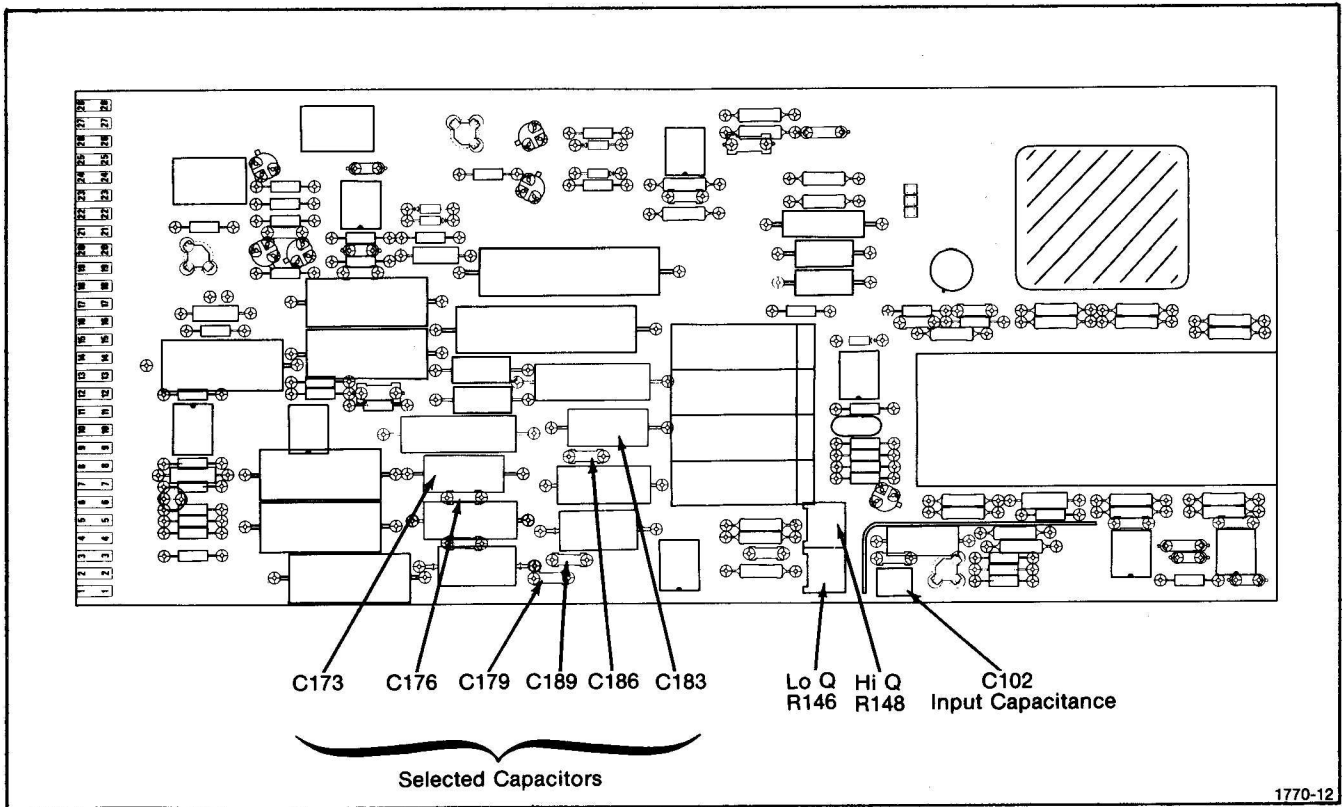

Fig. 3-1. Location of shunting capacitors, Lo Q, HI Q, and input capacitance adjustments.
c. Adjust—Hi Q, R148, for a 10 V peak-to-peak amplitude display on the oscilloscope. See Fig. 3-1 for adjustment location.
If display amplitude is above or below the specified tolerance level, capacitor values of the AF 501 FREQ MULT range switch will need changing. Two capacitors for each switch range are affected. Changing one capacitor value will decrease the amplitude; changing the other capacitor value will increase it. In general, only one switch range capacitor value should be changed to meet specification. Adding a selected capacitor in parallel, with a value of approximately 100 times the value of the existing switch range capacitor, will affect the amplitude about 15%. Refer to Table 3-4 and Fig. 3-1 for selection and location of the appropriate capacitors.
- f. Adjust—C102, for best front corner and flat top of the displayed square wave. See Fig. 3-1 for adjustment location.